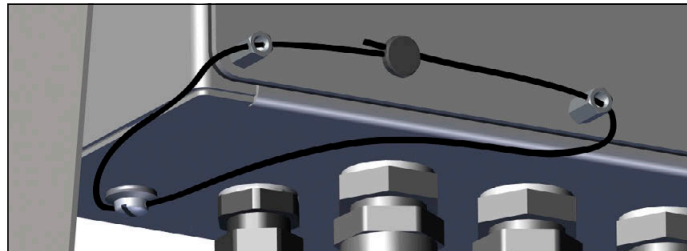

Figure 2-11. Sealing the 882D
2. Place the sealing wire through the drilled hex standoffs on the backplate, then through the fillister head screw at the bottom of the enclosure, as shown in Figure 2-11.